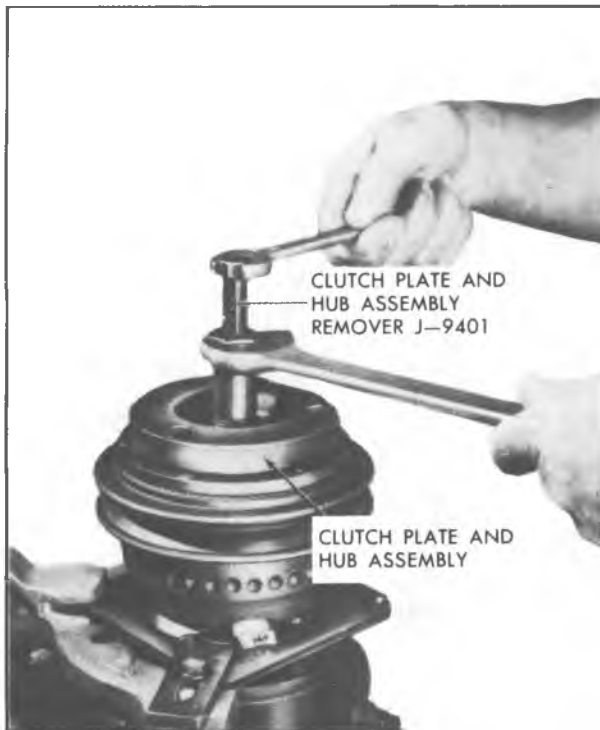

Fig. 4--Removing Clutch Plate and Hub Assembly
3. Thread Clutch Plate and Hub assembly Remover J-9401 into hub. Hold body of Remover with a wrench and tighten center screw to remove Clutch Plate and Hub assembly (Fig. 4).